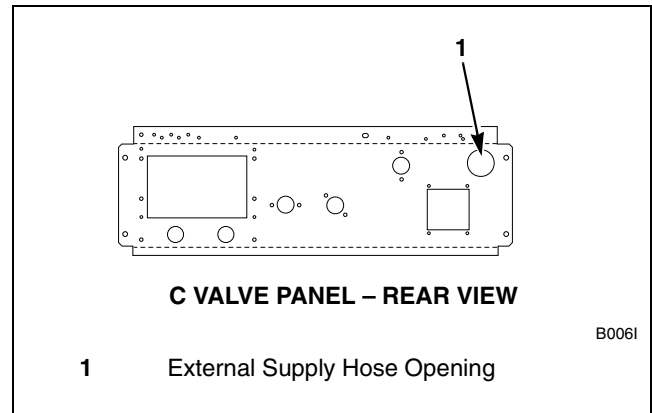

Figure 21
1. Facing the rear of the machine, locate the 1-1/2 inch opening found at the upper right-hand side of the valve panel. Refer to *Figure 21*.